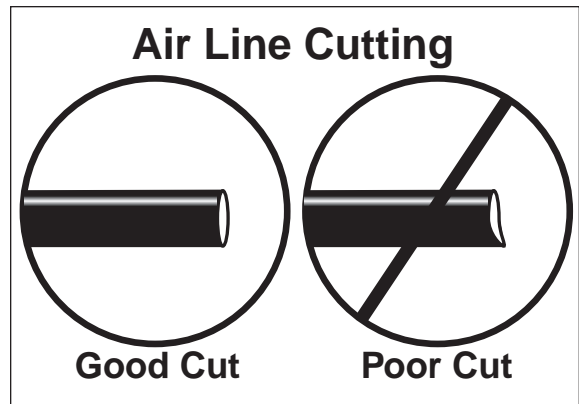

Figure 11
3. Cut the air line assembly (AA) in two equal lengths.
**CAUTION:** When cutting or trimming the air line, use a hose cutter (Air Lift P/N 10530), a razor blade or a sharp knife. A clean, square cut will ensure against leaks. (Figure 11). Do not use wire cutters or scissors to cut the air line. These tools may flatten or crimp the air line, causing it to leak around the O-ring seal inside the elbow fitting.